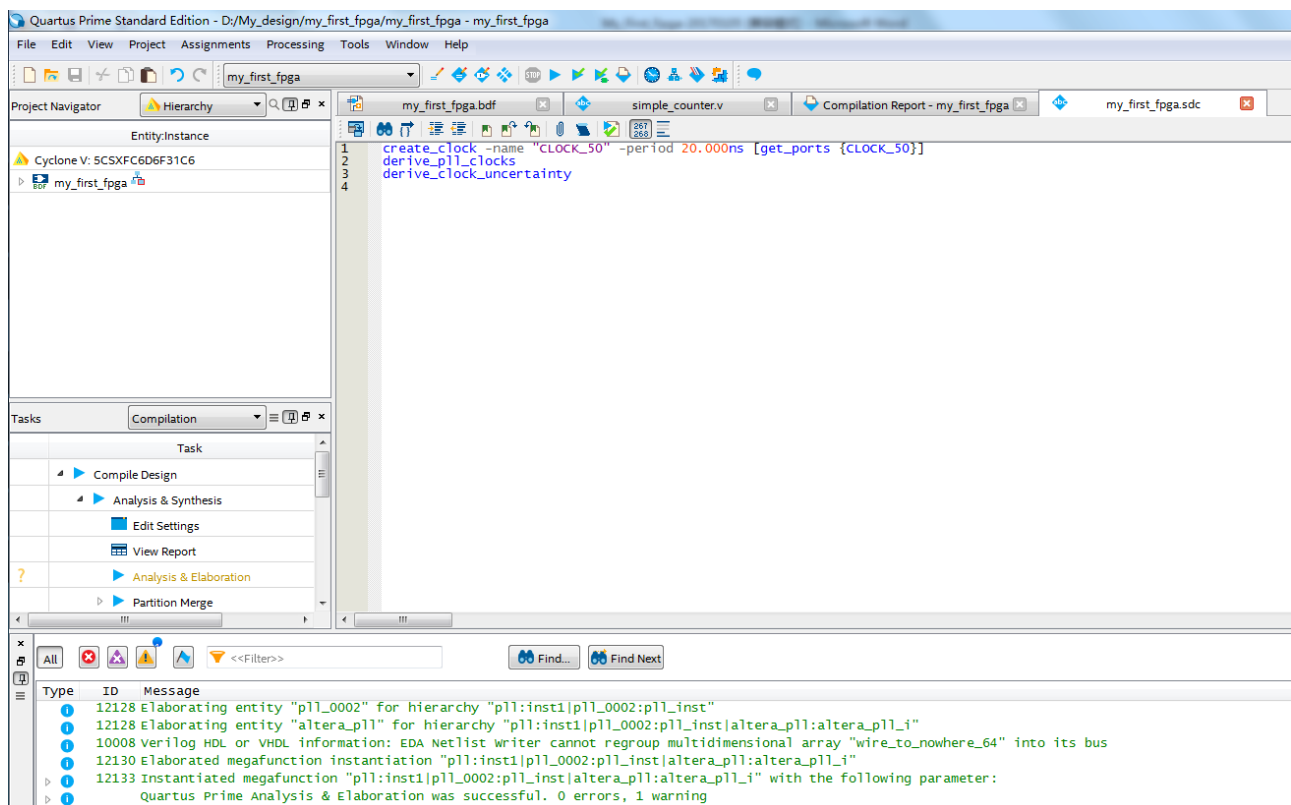

Figure 3-34 Default SDC
4. Save this file as my_first_fpga.sdc (see **Figure 3-34**).